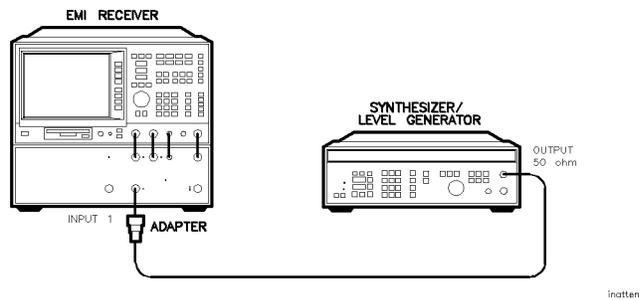

Figure 2-8. Input Attenuator Accuracy Test Setup
6. Connect the equipment as shown in Figure 2-8.